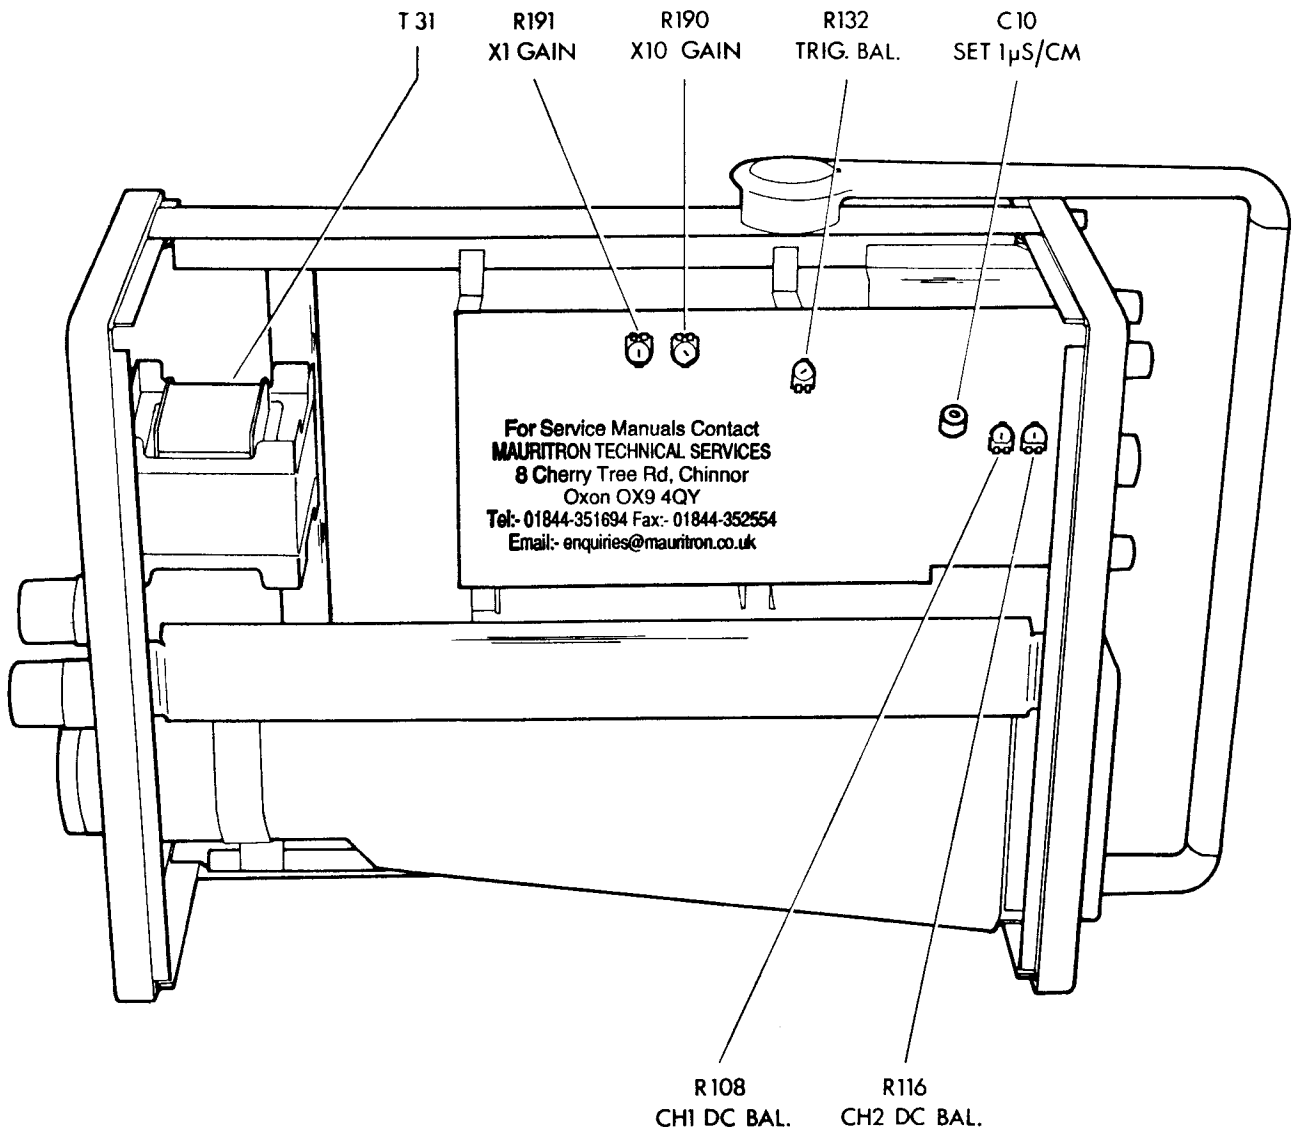

Fig. 2 Top view
5.4.4 Y Calibration (Fig. 2)
5.4.7 Timebase Calibration (Fig. 2)
5.4.8 Trigger Balance (Fig. 2)